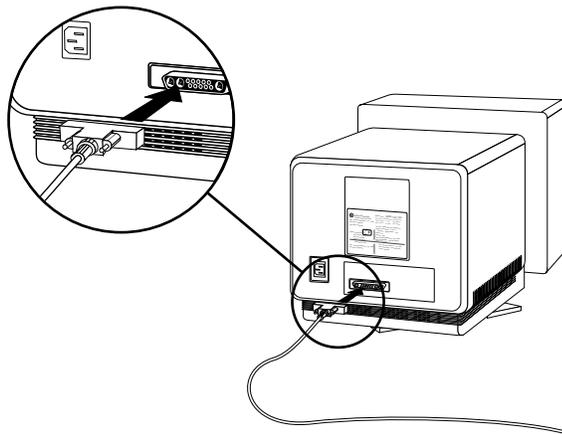

Figure 3-9 Connecting the Stacked Monitor's Cables to the Monitors
- Connect one end of the each monitor cable to the connector on the back of each monitor, as shown in Figure 3-9. Screw in the thumbscrews on both sides of the connector.